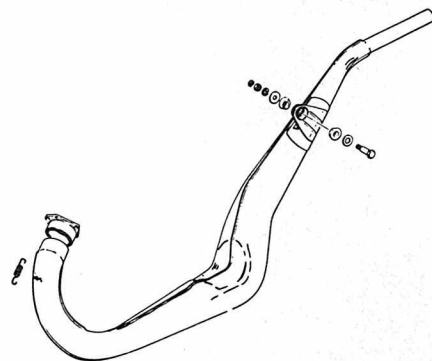

Fig. 3-19A—Drawing of a typical factory expansion chamber. Units are usually stamped and conform to fit closely to specific models.
**CONSTRUCTION.** Specifications are included in specific Speed Tuning sections for building expansion chambers for individual models. Construction is sometimes difficult; however, units are available which are ready to bolt onto many popular motorcycle models. Some of the expansion chambers available are manufactured from stampings (Fig. 3-19A) which permit the chamber to curve smoothly around engine and frame components without causing restrictions.